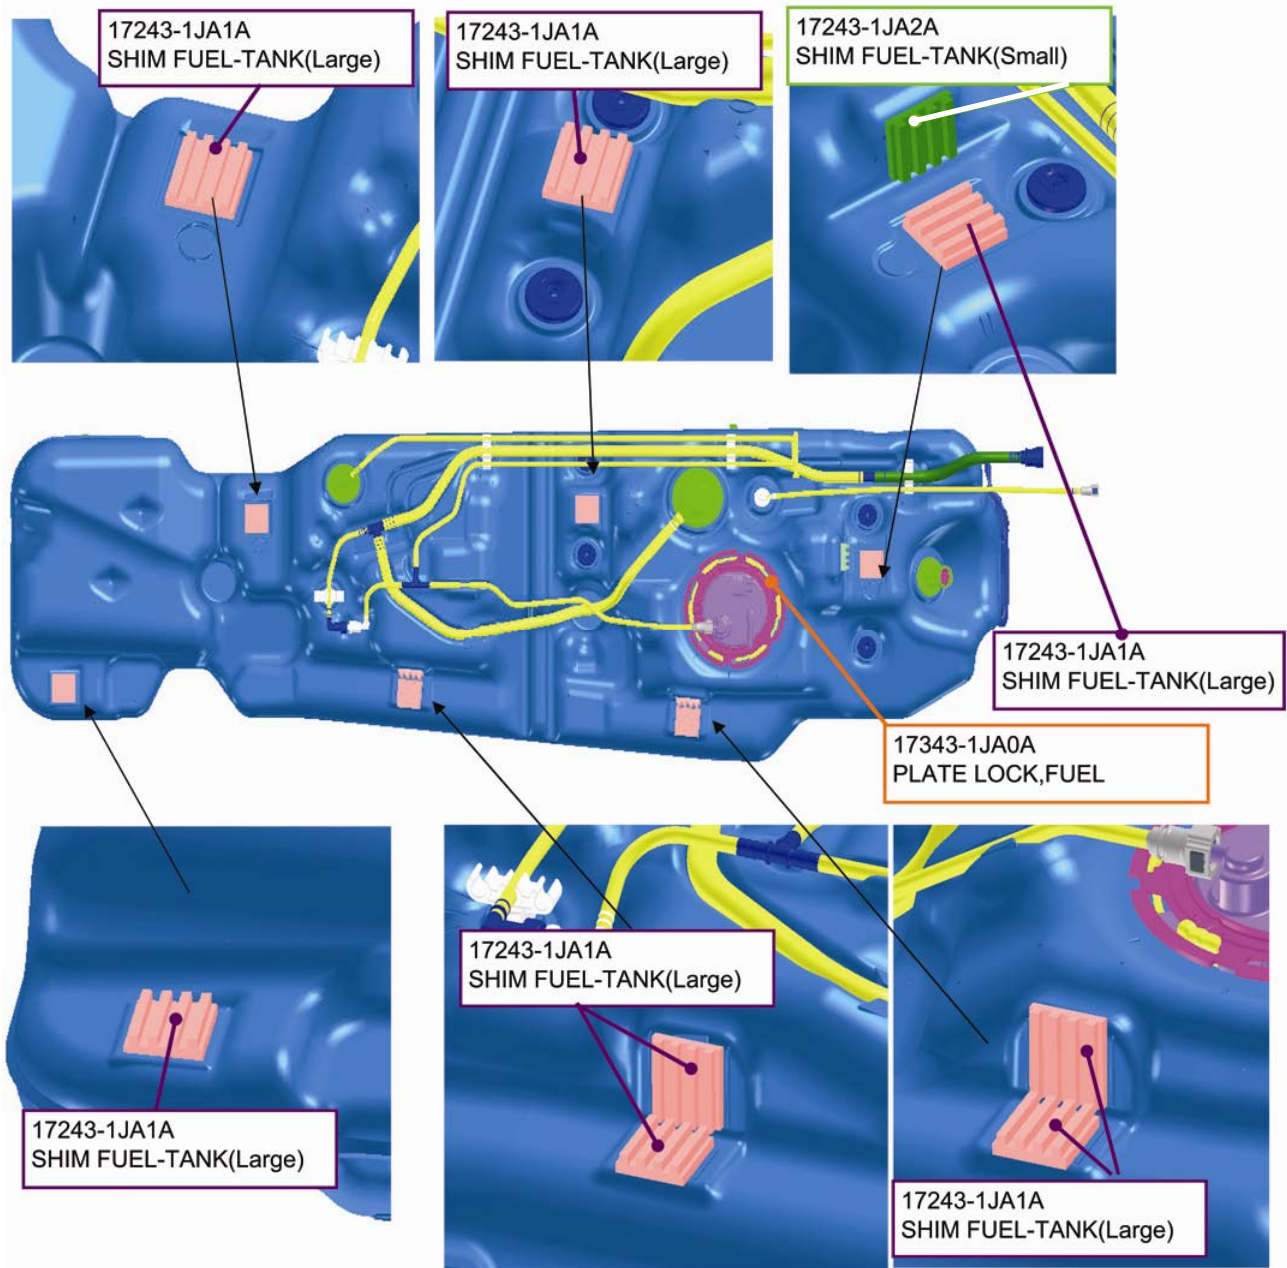

Fig. 8 (composite)
9. Install new Fuel Tank Shims as shown in Figure 8 below.